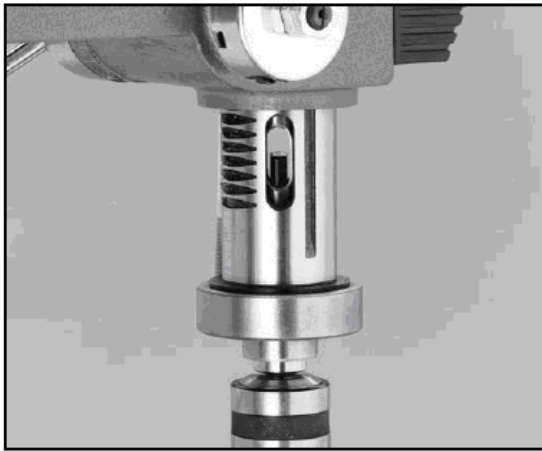

Figure 11(Without chuck guard)
2. Rotate the spindle until the inner slot is aligned with the outer as shown in **Figure 11**.